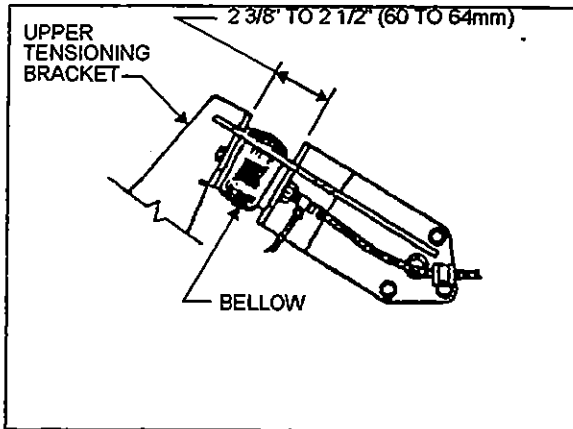

Figure 20: Upper Tensioning Bracket 12017
**Caution:** In order for tensioning system to work properly, the distance between the inside faces of "tensioning arm to engine" bellow brackets should be between 2 3/8" (60 mm) and 2 1/2" (64 mm); if not, release tension on system and readjust distance using bolts securing upper tensioning bracket (Fig. 20).